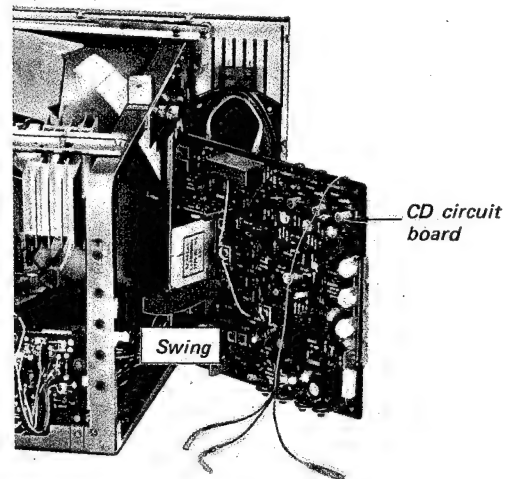

Fig. 2-19.
4. Swing the CD circuit board to the front as shown in Fig. 2-19.